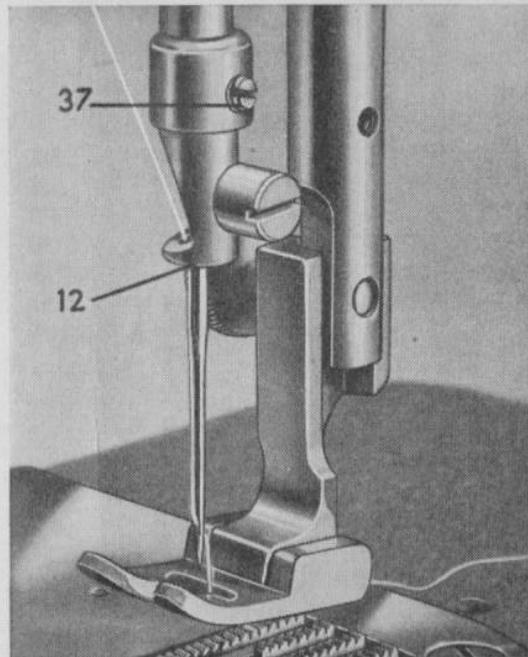

FIG. 55
*a. Attaching the two-needle clamp:* Turn handwheel toward you until needle reaches its highest point. Remove single needle clamp (12) used for all ordinary straight and zig-zag sewing (fig. 55) by loosening screw (37).